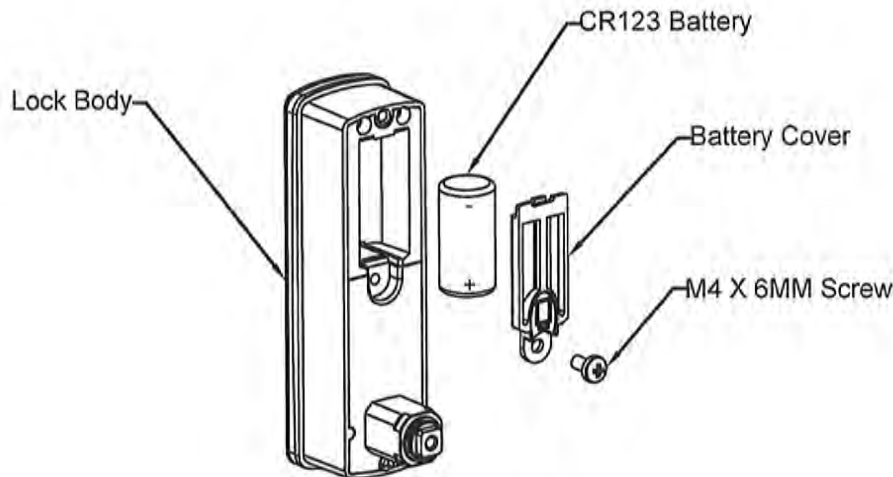

Figure 13.1 Inserting Battery
- 13.1 Unpack lock and all hardware. Install battery by removing all packaging, insert battery CR123 as shown, secure battery with battery cover using M4 screw, see Figure 13.1.